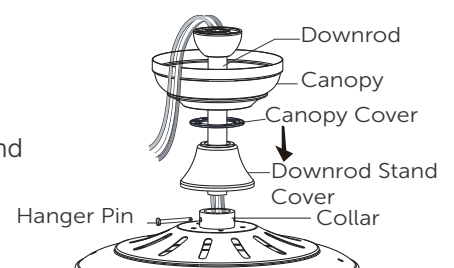

Fig. 5
5. Insert the downrod into the collar. Slide hanger pin through holes of collar and downrod (Fig. 5).